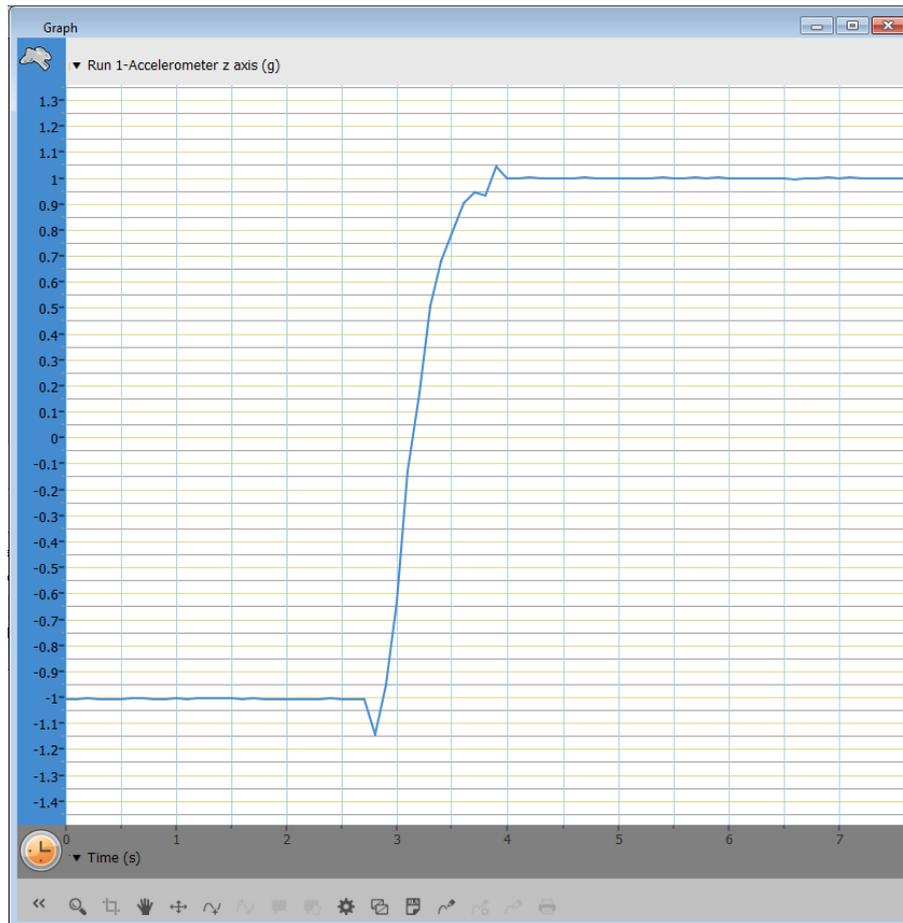

Figure 1: A measurement of Acceleration of Gravity at Z-axis
- Your graph should display +1 g and -1 g. (See Figure 1)